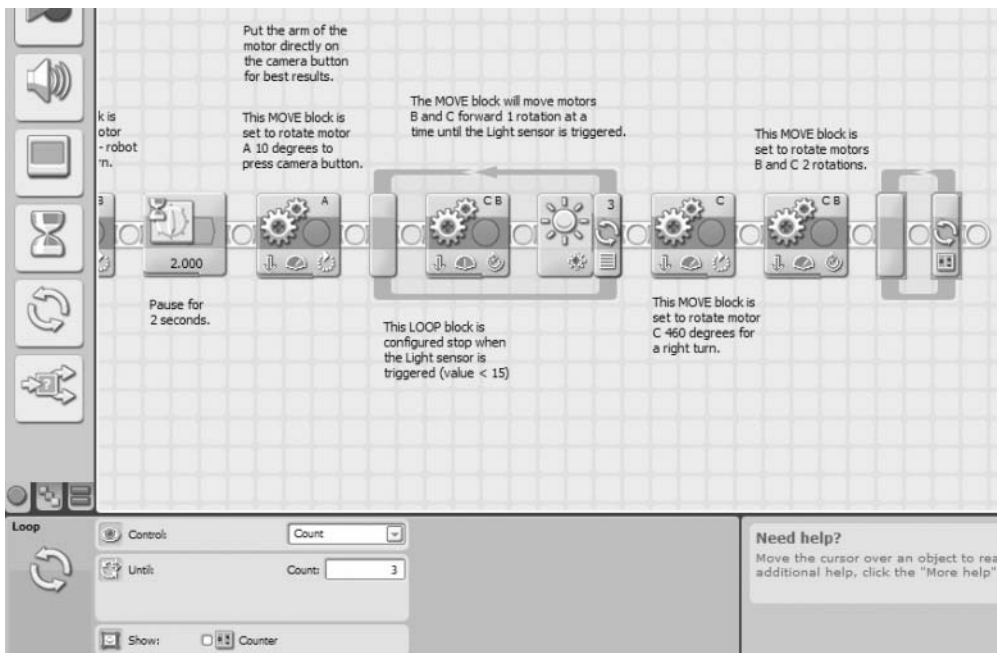

Figure 12-11. The LOOP block gets the bot around the basket.
If you examine the mini-map in Figure 10-4, you'll notice that once the bot reaches Point A, it will make three left turns before heading back to its starting point. It will turn left (1) at Point A, move forward, and stop at Point B; turn left (2), move forward, and stop at Point C; turn left (3), then finally move forward, and stop at Point D. This is a perfect location to use a LOOP again. It allows us to reduce the number of programming blocks by performing the same actions three times. Those actions are "Turn Left and Move Forward a Short Distance." So let's place the LOOP first (see Figure 12-11).